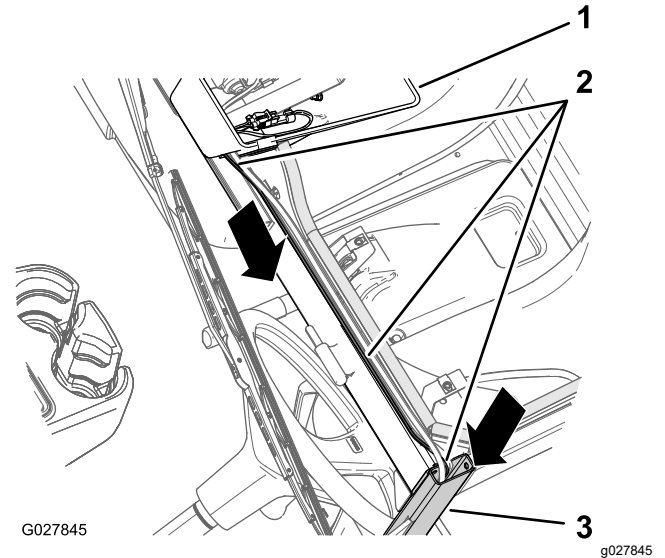

Figure 43
1. At the overhead console, route the wire harness for the washer pump (Figure 43) to the left and along side of the hose installed in Routing the Hose (page 15).